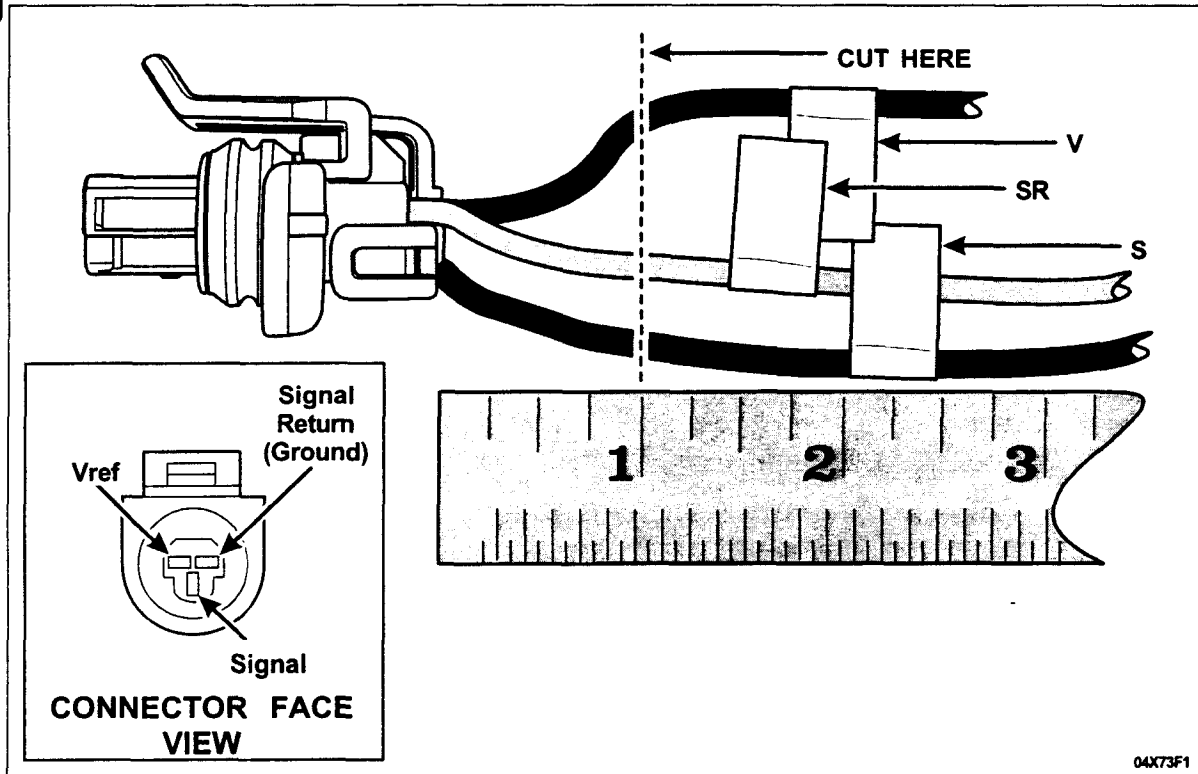

FIGURE 5
Identify each wire leading to the connector (Vref, Ground and Signal). Note the locations of each wire relative to the connector face view provided. Place the identification tags at least a few inches away from the connector. See Figure 5.
- Cut the wires about 25 mm (1 inch) behind the connector on the vehicle harness **MAKING SURE TO LEAVE THE IDENTIFYING TAGS ON THE HARNESS** and retain the old connector for reference. See Figure 5.